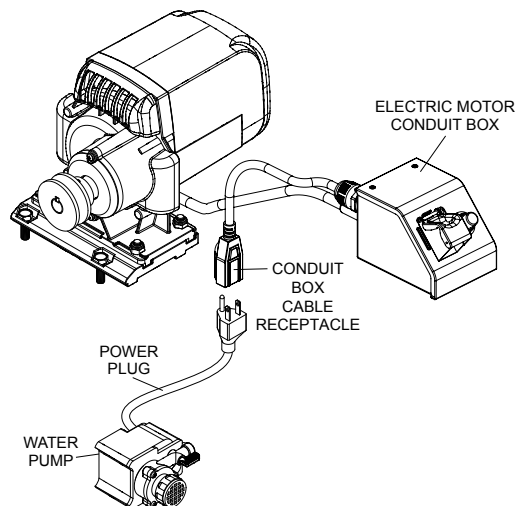

Figure 7. Water Pump Power Connection
8. Insert the water pump power plug into the outlet cable receptacle from the electric motor conduit box as shown in Figure 7.